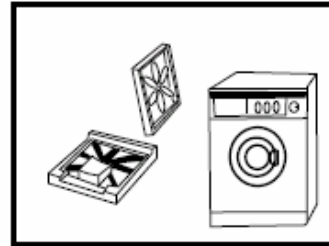

Fig. 1
- Remove all the packing materials to prevent vibration during use. Upon opening of the package, water drops may be seen on the plastic foam and the porthole. This is normal phenomenon resulting from water test in the factory, as shown in Fig 1.